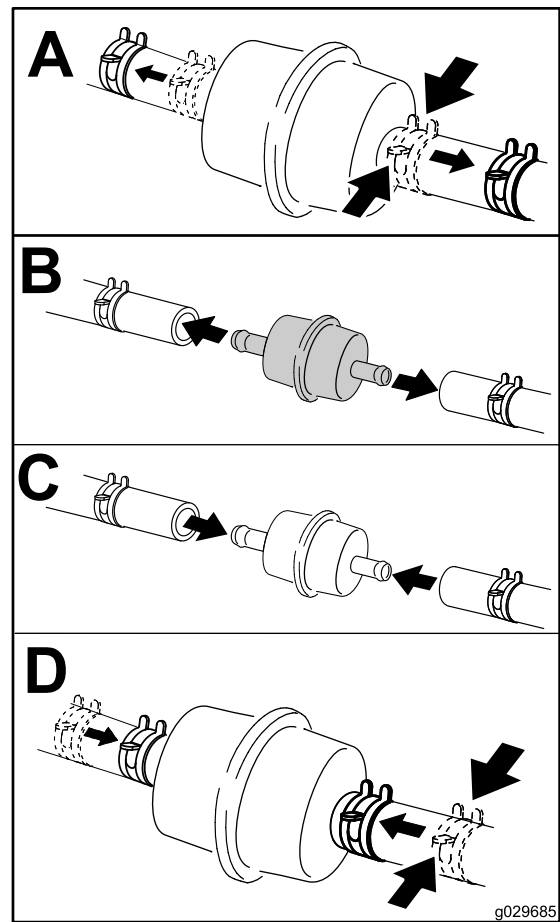

Figure 76
4. Replace the fuel filter (Figure 76).